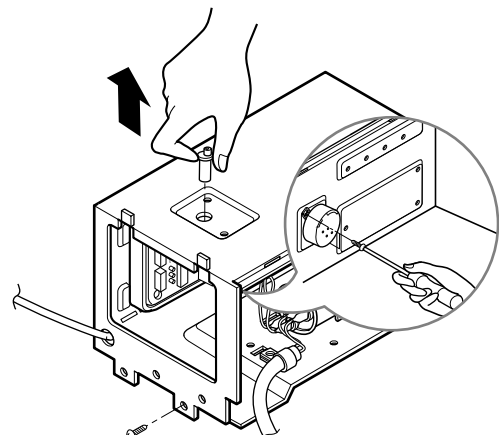

Figure 30
5. Remove the 2 screws which fasten the synchronous motor. (See Figure. 30)